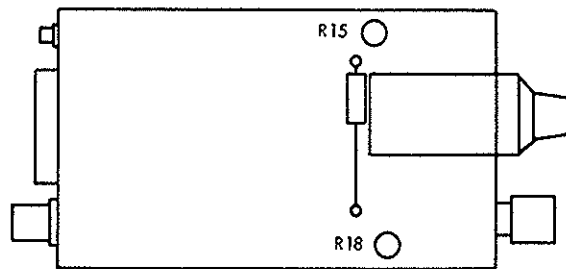

Figure 5-3. Calibration Points.
Access to the calibration points is gained by removing eight (8) Phillips head screws that secure the front and rear panel to the extrusion. The internal components adjusted as part of the calibration procedure are shown in Figure 5-3.
- i. Adjust sensitivity calibration potentiometer R18 (see Figure 5-3) for an indication on RMS meter that is equal to indication recorded in Step f.
- f. Adjust gain calibration potentiometer R15 (see Figure 5-3) for 7.07 V rms indication on RMS meter.